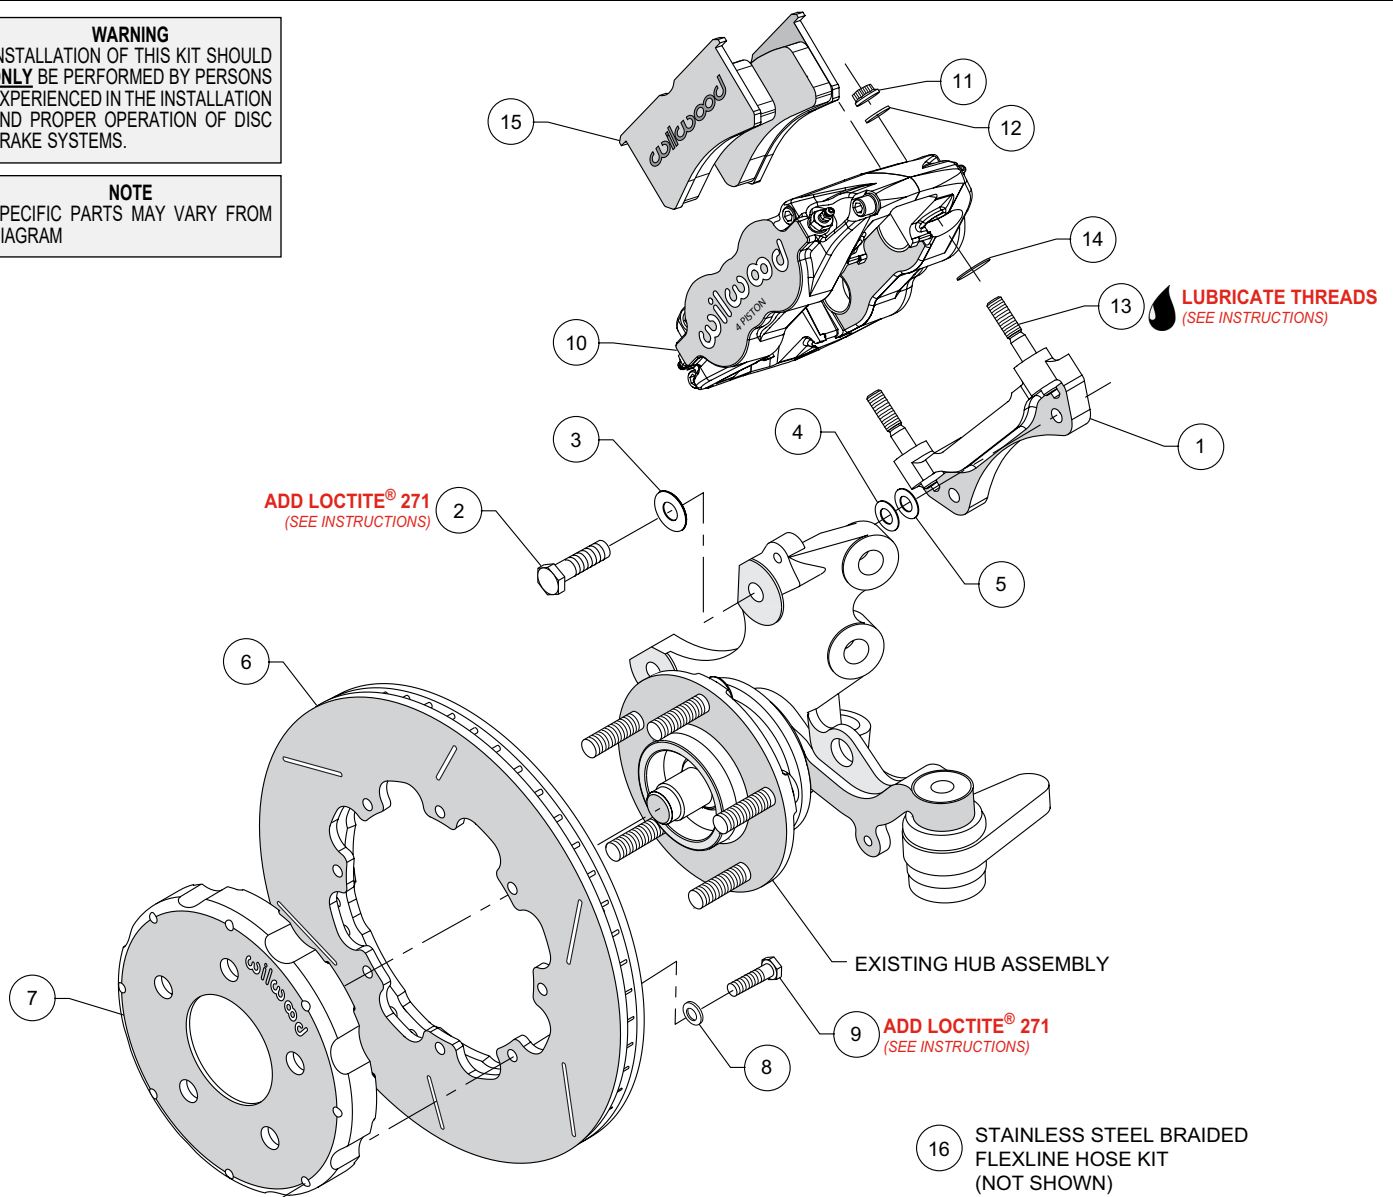
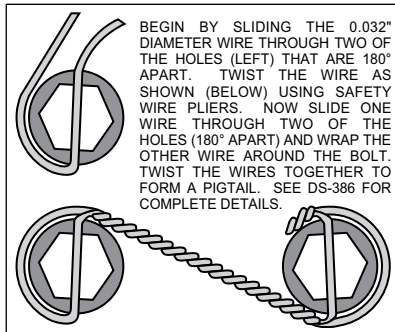

Figure 1. Typical Installation Configuration
Figure 4. Safety Wire Diagram
NOTE: Numbers in parenthesis refer to the parts list and Figure 1 on the preceding pages.
- The caliper mount bracket assembly (1) should be installed first with clean, dry threads on the mounting bolts. Install the bracket on the inboard side of the spindle by sliding bolt (2) through flat washer (3), and spindle mounting ear from the outboard side of the spindle. Place two shim washers (4) between the bracket (1) and the spindle (see figure 1). The bracket must tighten squarely against the inboard side of the modified caliper mount bosses on the spindle body. Inspect for interference from casting irregularities, machining ridges, burrs, etc. Later, after the caliper, pad, and rotor alignment has been checked, and any necessary shims have been put in place, the mount bolts should be coated with red *Loctite*® 271 and torqued to 65 ft-lbs.
- With the larger I.D. side of the rotor (6) facing away from the hat (7), attach the rotor (6) to the hat (7) using washers (8) and bolts (9) as shown in Figure 1. Apply red *Loctite*® 271 to the bolt threads and torque to 25 ft-lbs using a criss-cross pattern. For an added measure of security, the bolts may be safety wired using standard 0.032 inch diameter stainless steel safety wire as shown in Figure 4. Please refer to Wilwood's data sheet DS-386 (available at www.wilwood.com/Pdf/DataSheets/ds386.pdf) for complete safety wire installation instructions.
- Lubricate caliper mounting studs (13) and nuts (11) with lightweight oil. Install two shims (14) over each stud (13) on the radial mount bracket. Slide the caliper (10) in place over the studs and rotor and install the washer (12) and lock nut (11) to hold the caliper in place. The caliper bleed screws should be pointing up. Snug the lock nuts (11) and check that the rotor (6) is centered in the caliper (10). Add or subtract shims (4 and/or 5) as necessary between the mount bracket and the spindle to center the caliper.